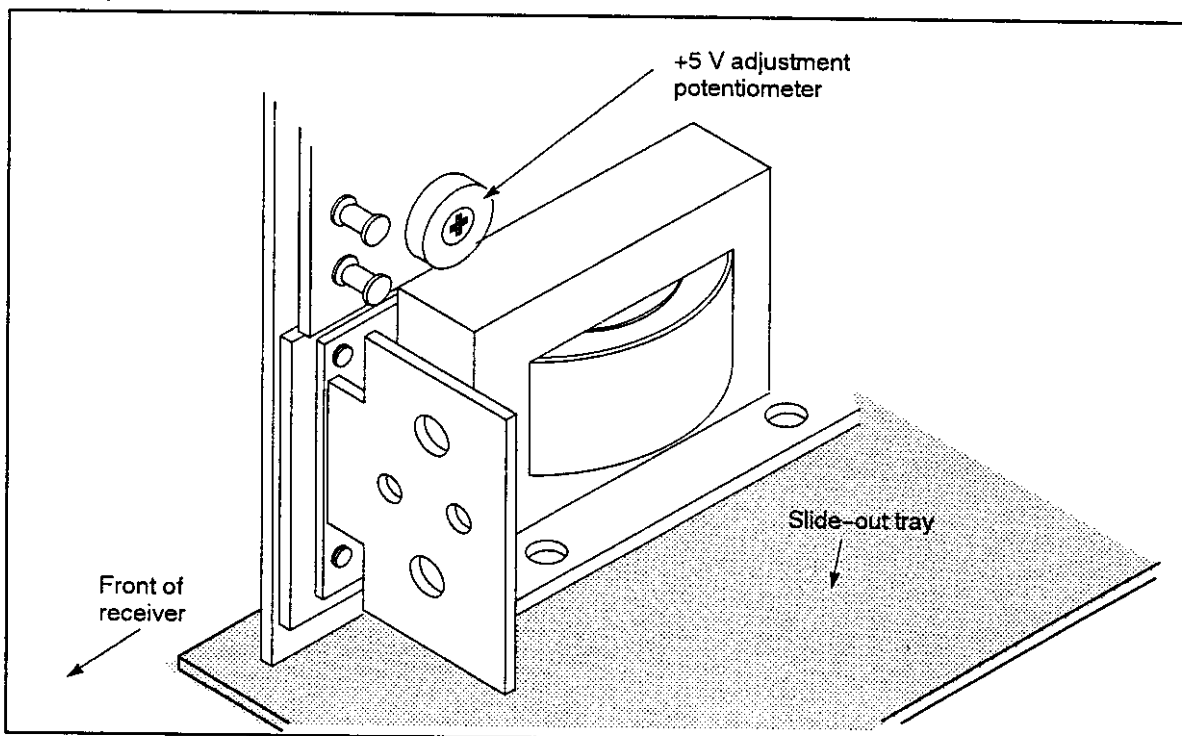

Figure 46. Location of the Receiver +5 VDC Adjustment.
- c. If necessary to adjust the output level, use Figure 46 to locate the voltage adjustment potentiometer.